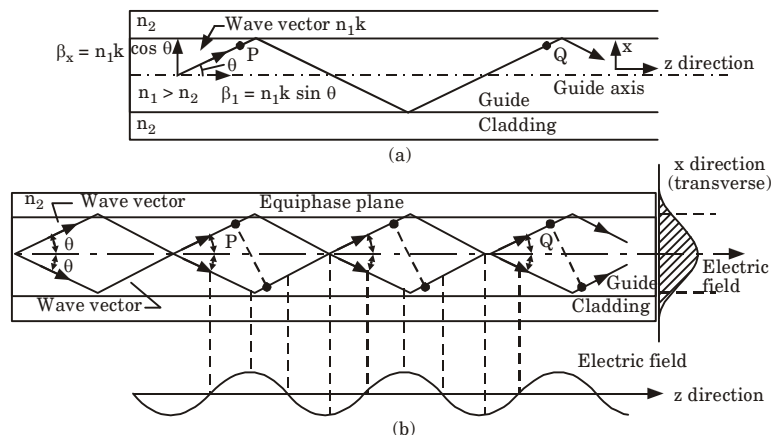

Fig. 1.13.1. The formation of a mode in a planar dielectric guide.
3. A plane monochromatic wave propagating in the direction of the ray path within the guide as shown in Fig. 1.13.1(a).
two component plane waves propagating in the z and x directions, as shown in Fig. 1.13.1.
10. This situation is illustrated in Fig. 1.13.1(b), the optical wave is effectively confined within the guide and the electric field distribution in the x -direction does not change as the wave propagates in the z -direction.
11. The sinusoidally varying electric field in the z -direction is also shown in Fig. 1.13.1(b).
13. A specific mode is obtained only when the angle between the propagation vectors or the rays and the interface have a particular value, as indicated in Fig. 1.13.1(b).